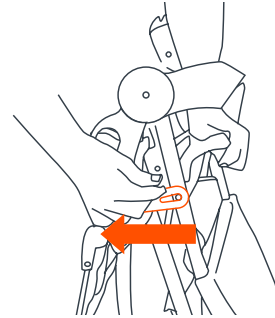

Fig. 19a
- 19)** • Stand the stroller on the ground with all three wheels touching the ground. Release the folding latch, which is located on the right side (Fig. 19a).